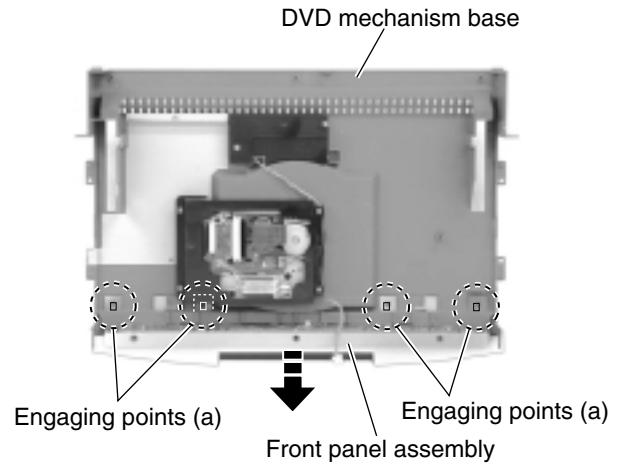

Fig.8
■ Separating the front panel assembly and the DVD mechanism base (See Fig.8)